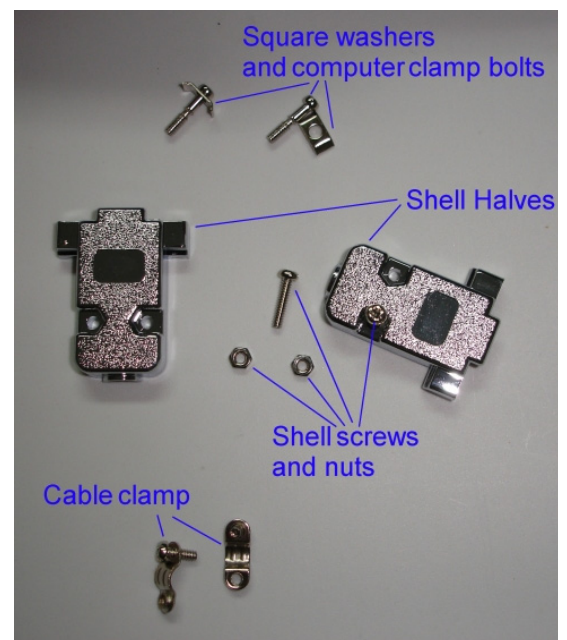

Figure 5
6. Cut open and empty the d-sub hood plastic parts bag. Place the two cable clamp halves over the cable just before the sheath end. Insert and tighten the two small screws. See figure 5.